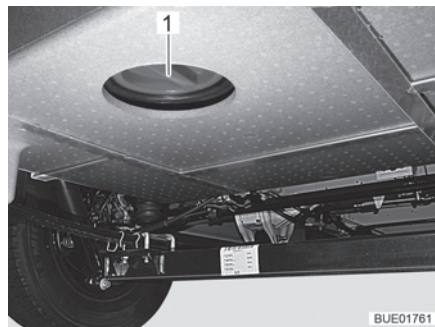

Fig. 183 Cleaning opening of the waste water tank
- Open the cleaning opening (Fig. 183,1) on the waste water tank and the drain cock.